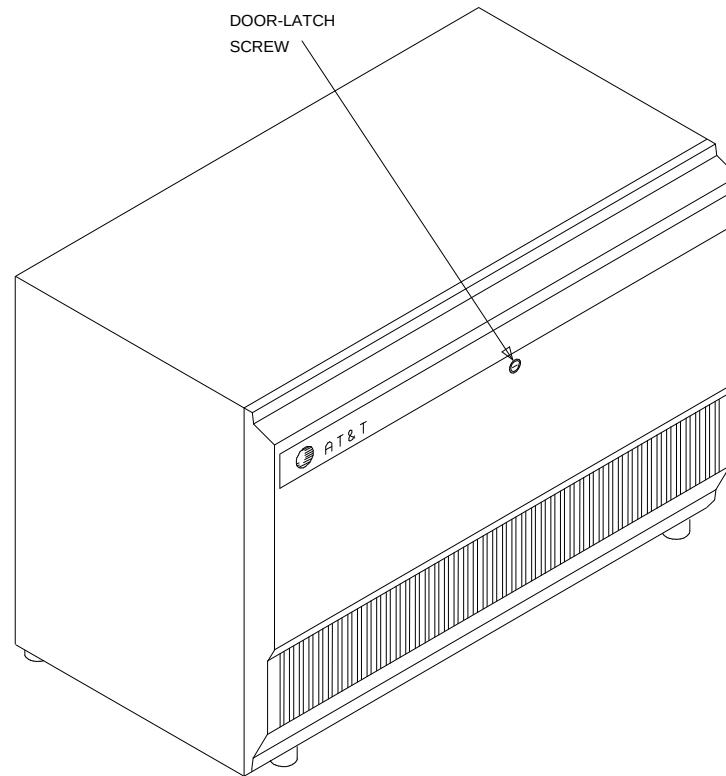

Figure 12-4. Location of Cabinet's Door-Latch Screw
- a. Use a screwdriver, and turn door-latch screw counter clockwise one-fourth turn to open door (see Figure 12-4).